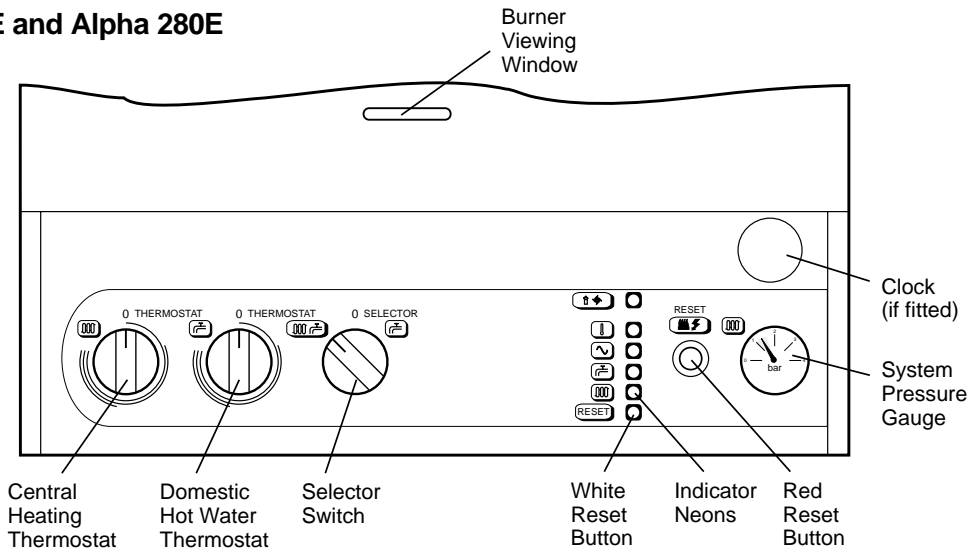

Fig. 16
5.2 BOILER CONTROLS - Fig. 16
5.4 INITIAL LIGHTING - Refer to Fig. 16
-  Overheat thermostat has operated - press **white** reset button (see Fig. 16) to reset (not applicable to the Alpha 240P and 280P).
When the red reset button () is illuminated it indicates that the burner has failed to light - Press the **red** reset button (see Fig. 16) and the ignition sequence will restart (not applicable to the Alpha 240P and 280P).